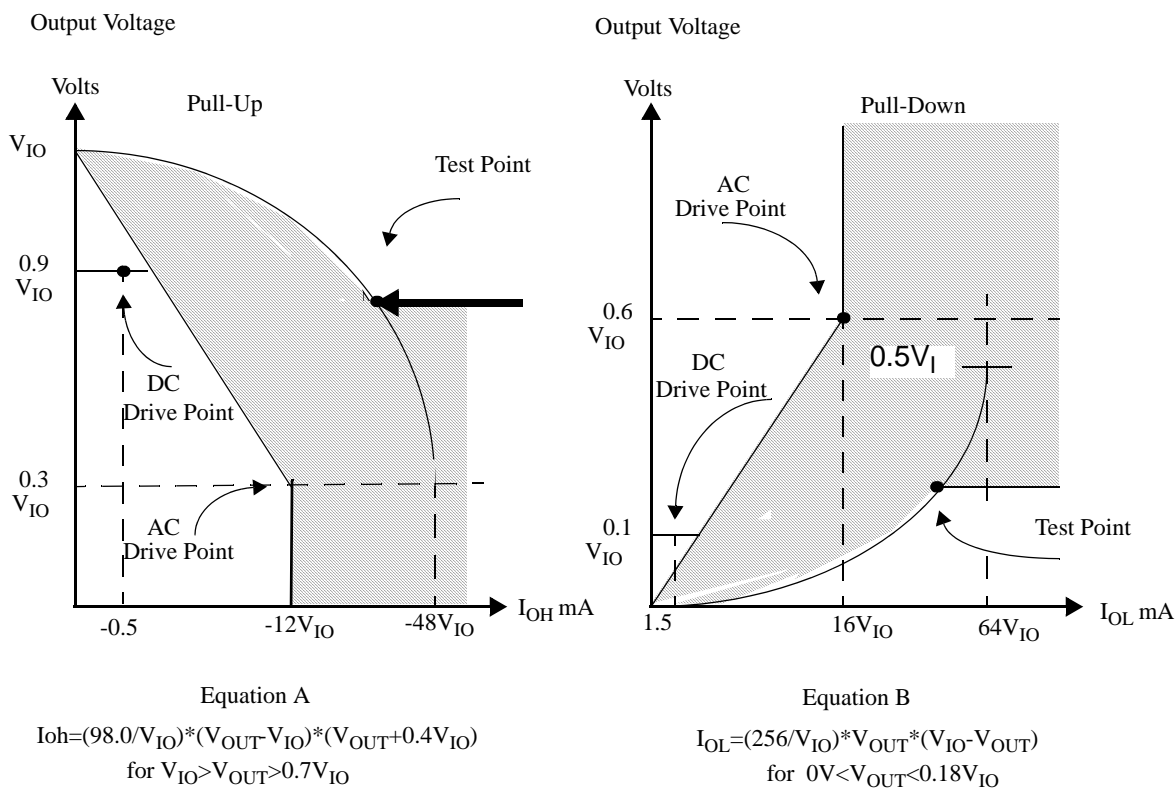

Figure 7-11 V/I Curves for PCI Output Signals
1. Refer to the V/I curves in Figure 7-11. This specification does not apply to PCICLK0, PCICLK1, and $\overline{\text{PCIRST}}$ which are system outputs.
2. Maximum current requirements are met when drivers pull beyond the first step voltage. Equations which define these maximum values (A and B) are provided with relevant diagrams in Figure 7-11. These maximum values are guaranteed by design.